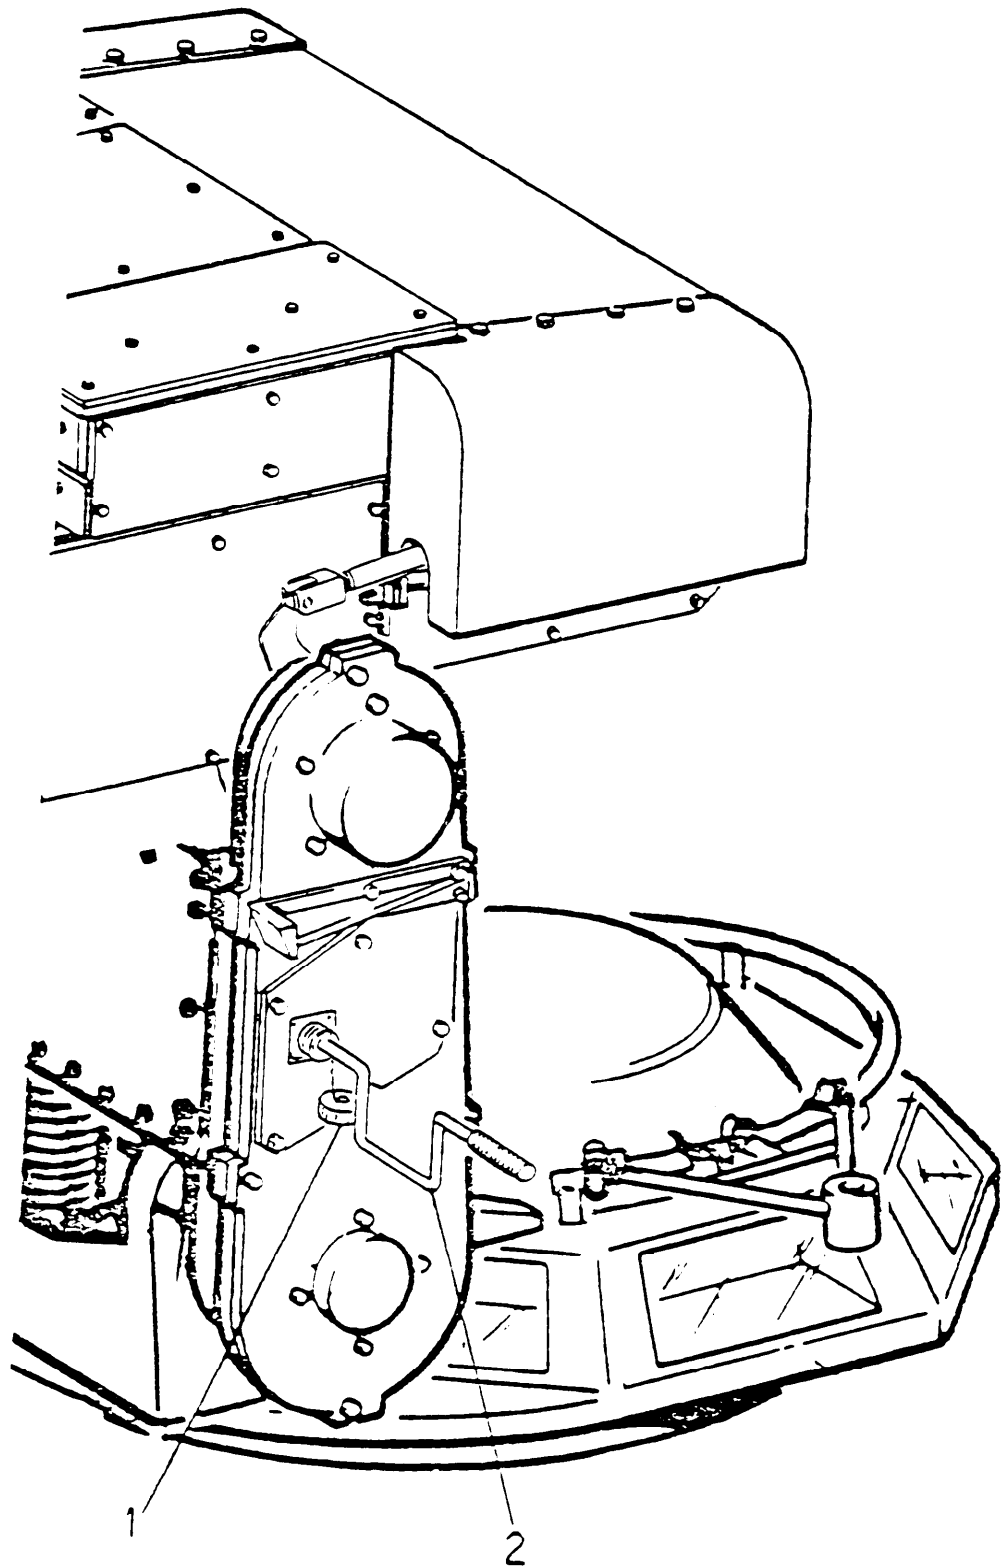

Figure D-3. Installation of Handcrank
- c.* Remove cap (1) from erection arm. (See fig. D-3)
- d.* Install handbrank (2) and turn handcrank clockwise to crank launcher down to deck.